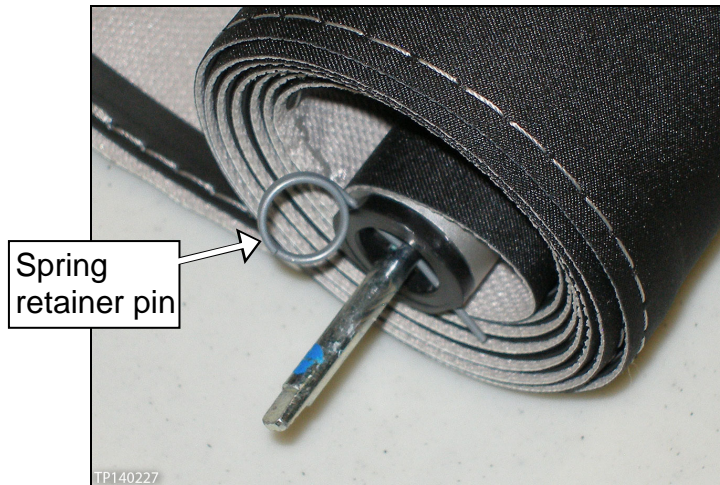

Figure 8
**NOTE:** Do not remove the spring retainer pin in the new sunshade (see Figure 8 below) until instructed on page 8, step 9. Removing the spring retainer pin before being instructed may cause the shaft spring to unwind. In case this pin has been removed too soon and the spring has unwound, the spring can be rewound (see page 10, **Rewind Sunshade Spring**).